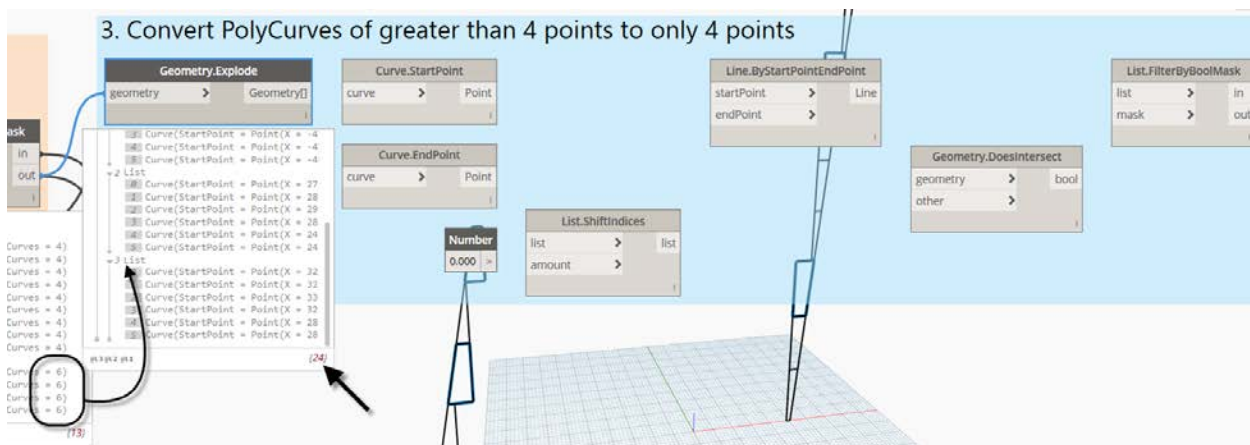

Figure 74
29. Position the nodes as shown in Figure 74.